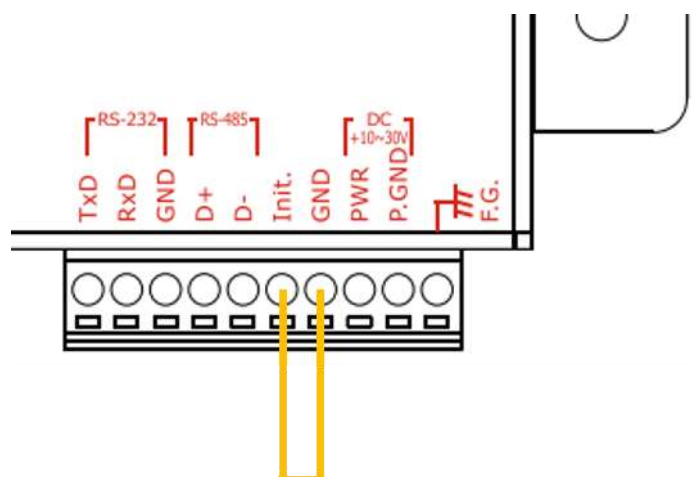

Figure 10.2.3
- The Init. pin is connected to GND pin, as shown in Figure 10.2.3